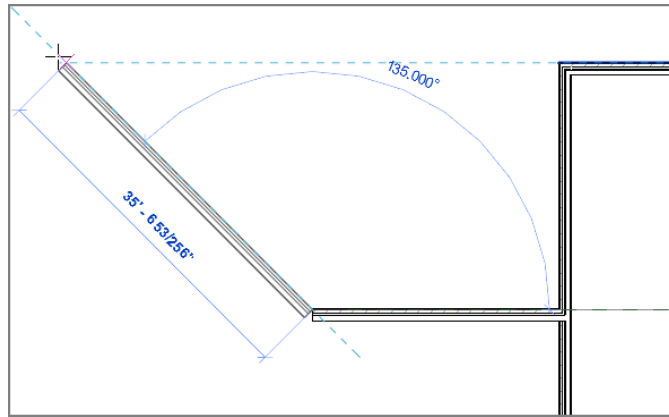

FIGURE 2.8: Allow Revit to guide you in the placement of walls.
13. When you move your cursor far enough in this direction, Revit picks up the north finish face of the building drawn in the previous procedure. After these two alignment lines appear, pick the point on the screen, as shown in Figure 2.8.